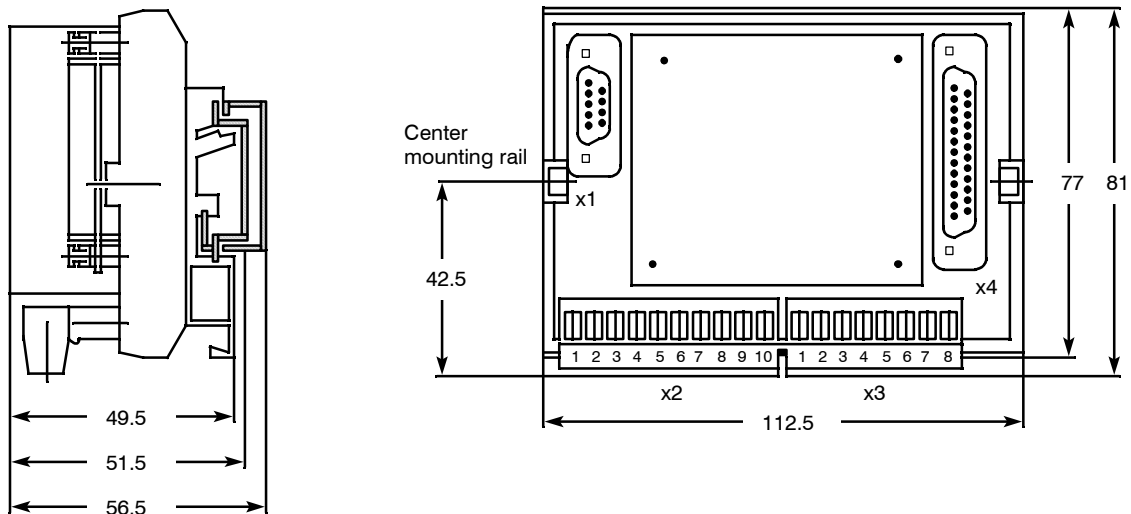

Figure 2-8 Dimensioned drawing SIPART bus driver, dimensions in mm
- Dimensioned drawing	see fig. 2-8, page 54
see figure 2-8